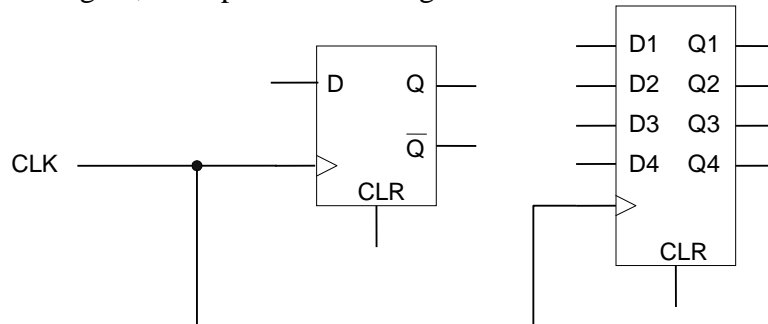

Figure 6: The same clock signal must be used for all sequential device clock inputs.
2. The clock inputs of **all** your sequential devices should be connected to a single free running clock signal; example shown in Fig. 6.